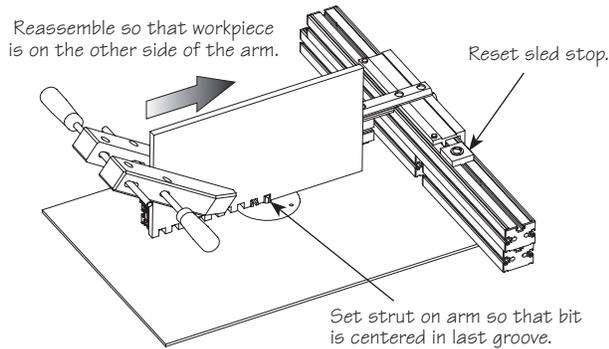

Figure 26: Relocating the strut assembly.
- Loosen the two arm screws and remove the strut assembly (with clamped workpiece). Reattach the strut assembly so the workpiece is on the opposite side of the sled, as shown in **Figure 26**.
- Adjust the strut assembly so that the bit is centered within the last finger cut (with the router unplugged, rotate the bit by hand as a check), see **Figure 26**. Lock the strut assembly in this position to the arm.